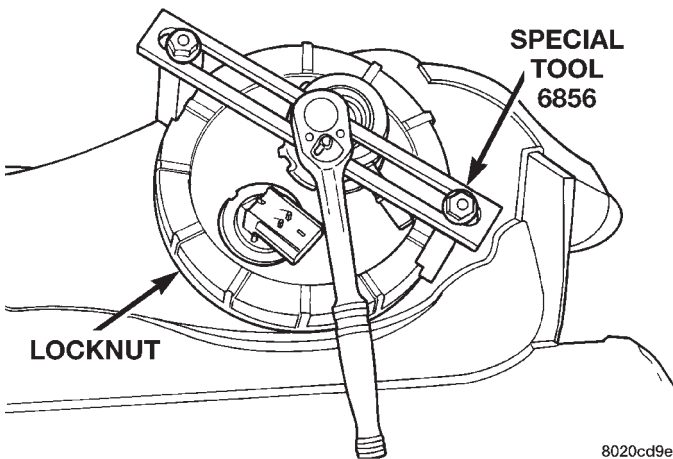

Fig. 52 Locknut Removal/Installation—TYPICAL MODULE
(1) Drain and remove fuel tank. Refer to Fuel Tank Removal/Installation.
(2) Thoroughly clean area around tank module at top of tank.
(3) The plastic fuel tank module locknut is threaded onto fuel tank (Fig. 51). Install Special Tool 6856 to locknut and remove locknut (Fig. 52). The fuel tank module will spring up when locknut is removed.
(4) Remove module from fuel tank.